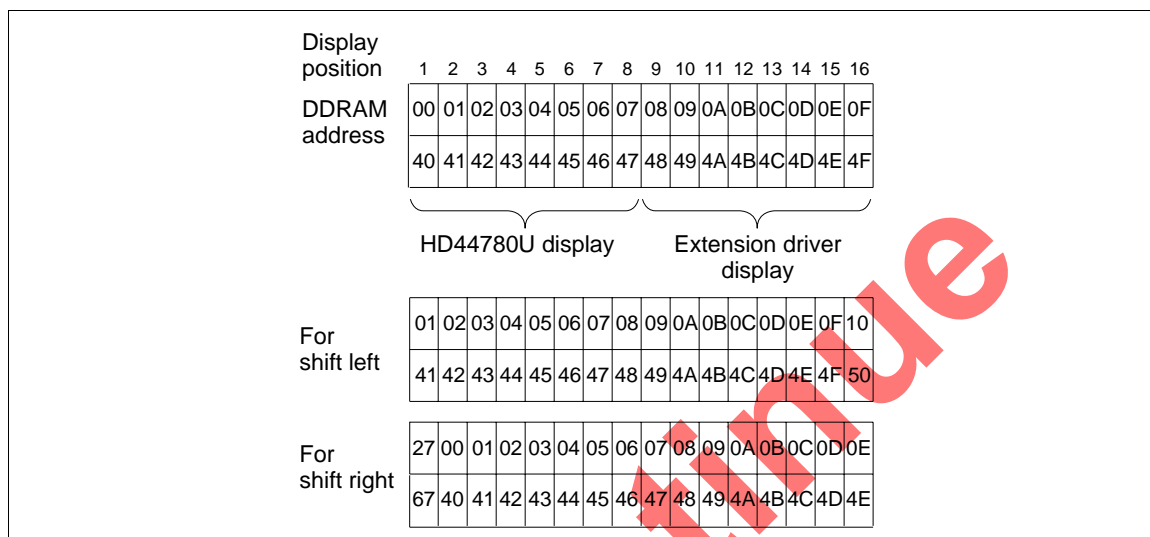

Figure 6 2-Line by 16-Character Display Example
- Case 2: For a 16-character \times 2-line display, the HD44780 can be extended using one 40-output extension driver. See Figure 6.
When display shift operation is performed, the DDRAM address shifts. See Figure 6.